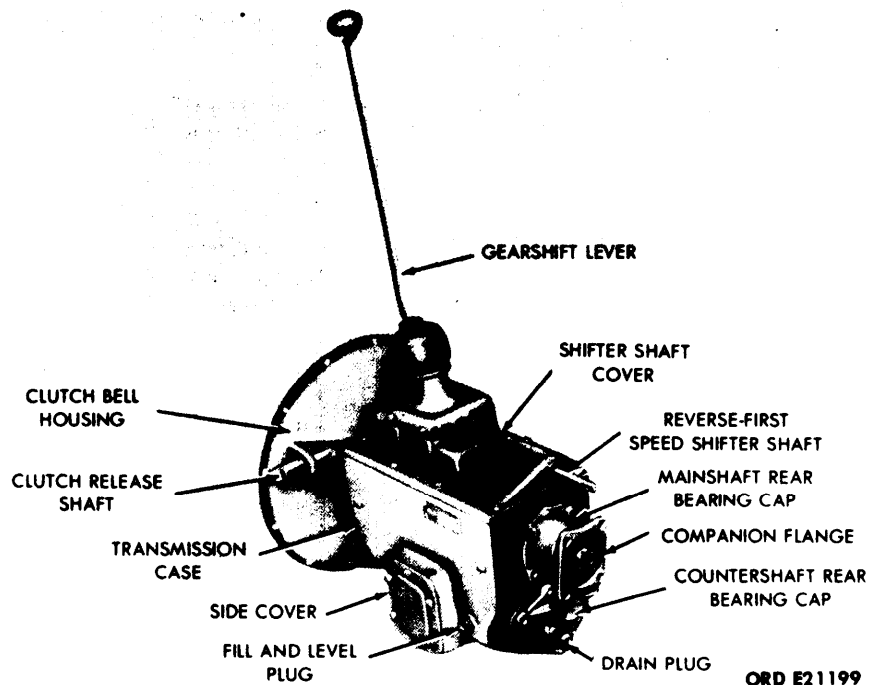
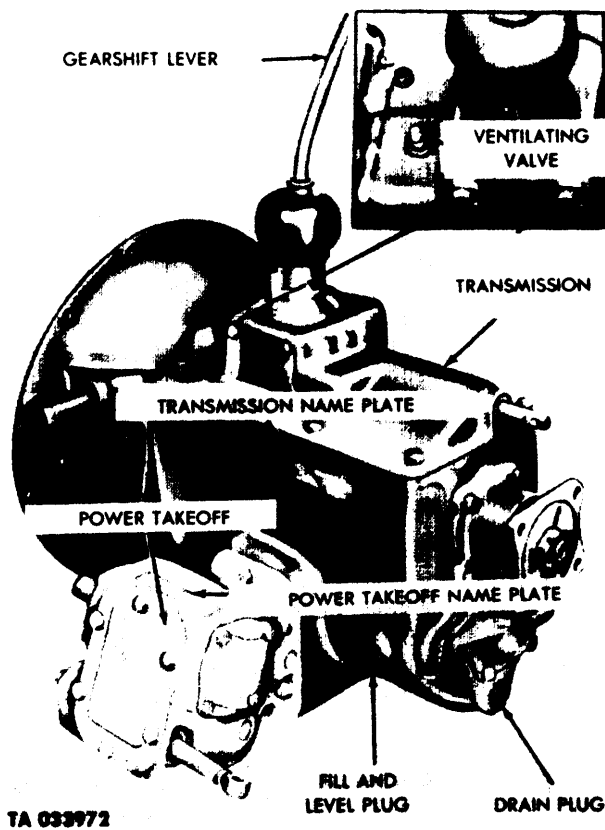
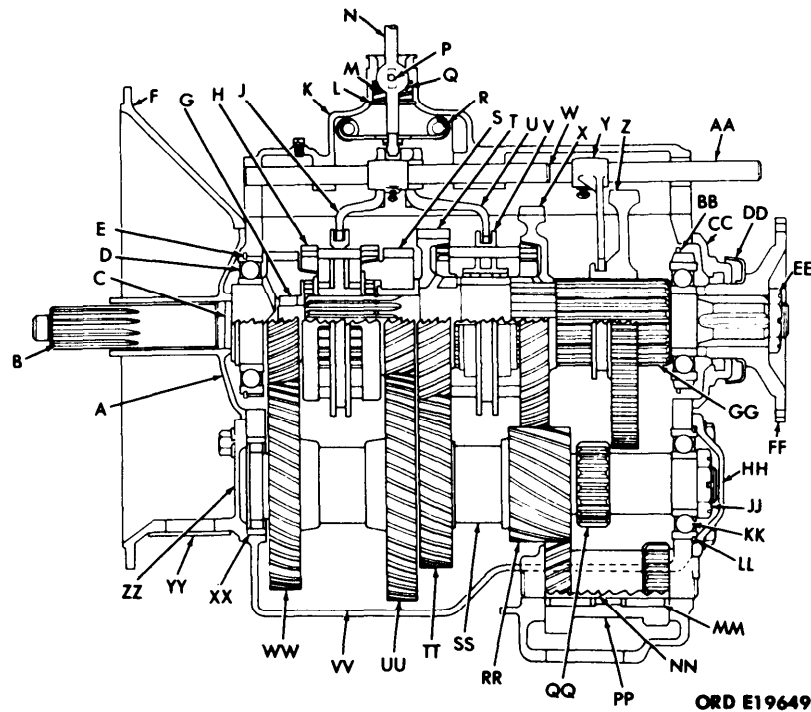

Figure 3-1. Transmission Models 3052 and 3053A - Exterior Components.
Figure 3-2. Transmission Models 3052 and 3053A Equipped With a Power Takeoff.
Figure 3-3. Transmission Model 3053A Sectional View (Also Typical of Model 3052).
*a. General.* Transmission model 3052, shown in figure 3-1, is utilized on the 2½-ton, 6x6, M44 series vehicles using a gas engine, not equipped with a front winch. This same transmission is used with vehicles equipped with a front winch. The transmission has a power takeoff mounted on the left side (fig. 3-2) which is used to drive the winch. The construction of the transmission is illustrated in figures 3-3 to 3-11.
Legend for fig. 3-3: